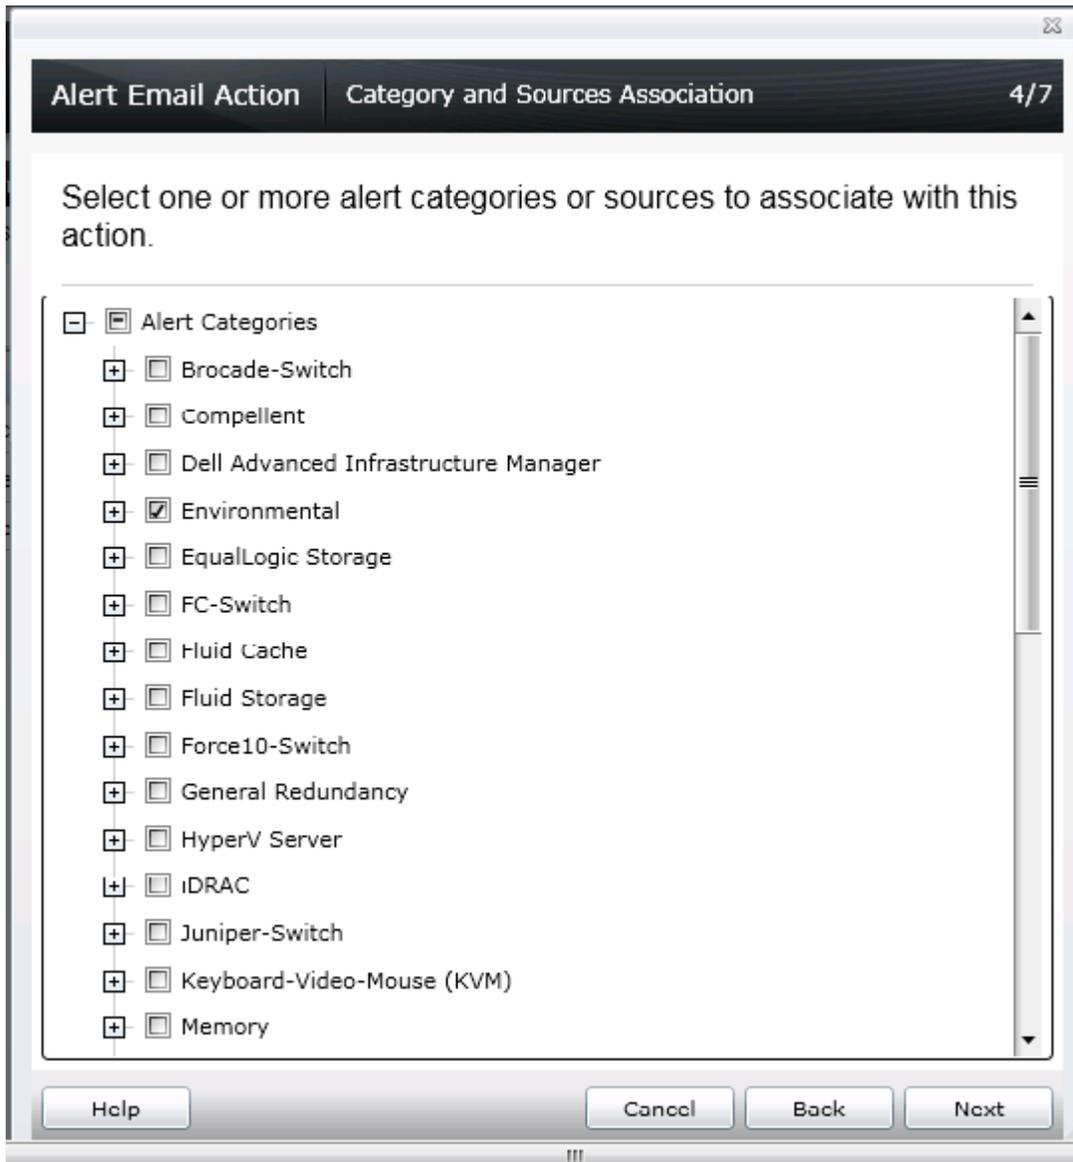

Figure 9 Category and Sources Association
5. To restrict the emails to a specific category, select one or more alert categories or sources as shown in Figure 9.
- Receiving an alert that matches all the conditions configured in the **Alert Email Action** task, an email as shown in Figure 9 is sent from OME.